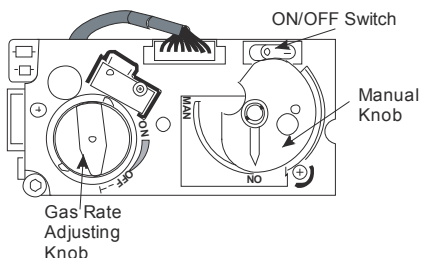

Figure 14
1. Ensure that gas is available at the valve and the ON/OFF switch in the ON position (→). (See **Figure 14**).